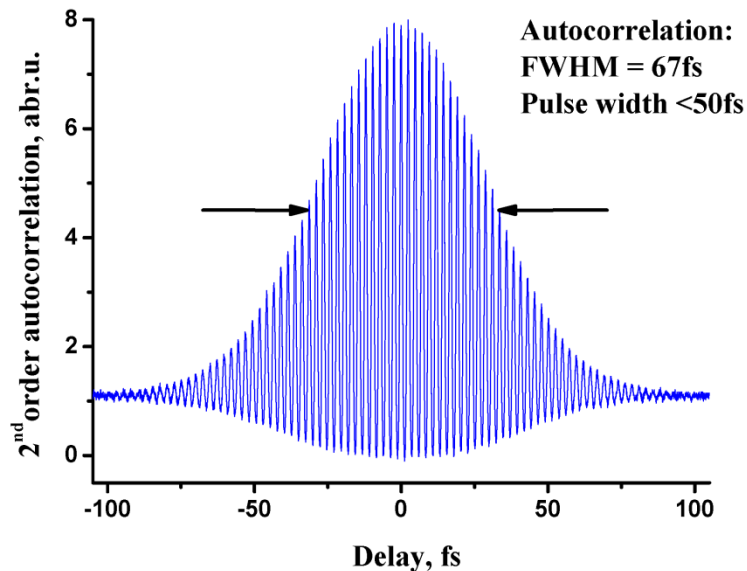

Fig. 18 Autocorrelation
87. Measure pulse duration with an autocorrelator. The typical autocorrelation trace is given in the **Fig. 18**.